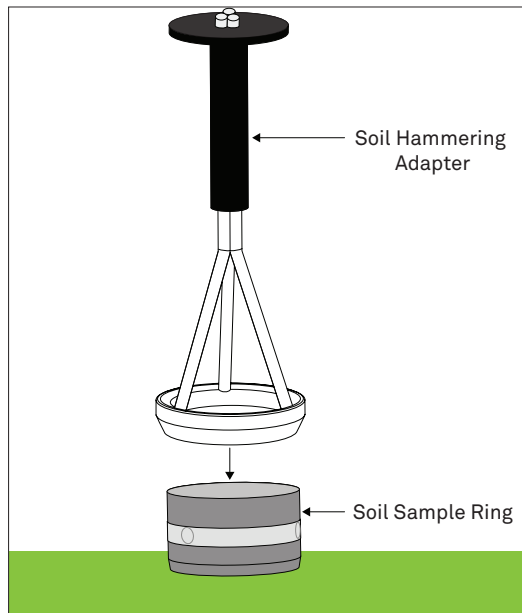

Figure 7 METER soil hammering adapter placement
5. Place the METER hammering adapter (available for 250 mL) on the sample ring (Figure 7).